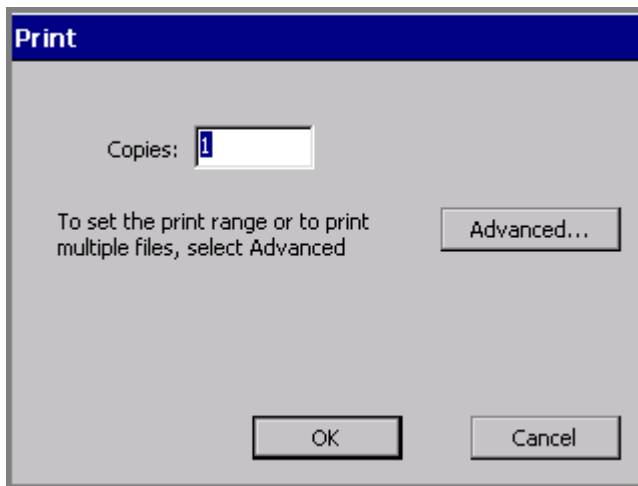

Figure 11-3. The Print screen.
1. With the label you want to print displayed in the **Editor** window, press **<Print>**. You'll see the **Print** screen (Figure 11-3).
1. When the label set is complete (see **Creating Sets of Labels** on page 6-21), choose **<Print>**. The **Print** screen displays, as shown in Figure 11-3.
1. When the label set is complete (see **Creating Sets of Labels** on page 6-21), or you have opened a file containing a label set, choose **<Print>**. The **Print** screen displays, as shown in Figure 11-3.
4. Choose **OK**. You'll see the **Print** screen (Figure 11-3) again.
1. With any file from the group you want to print open in the **Editor** window, press <**Print**>. You'll see the **Print** screen (Figure 11-3).
5. Choose **OK**. You'll see the **Print** screen (Figure 11-3).
4. Choose **OK**. You are returned to the **Print** screen (Figure 11-3).